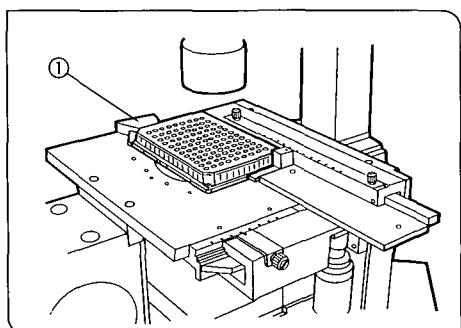

Fig. 59
- 1. Open the spring-loaded finger of the specimen holder ① and slide the microtiter plate into the holder frame. Gently release the curved finger to clamp. (Fig. 59)